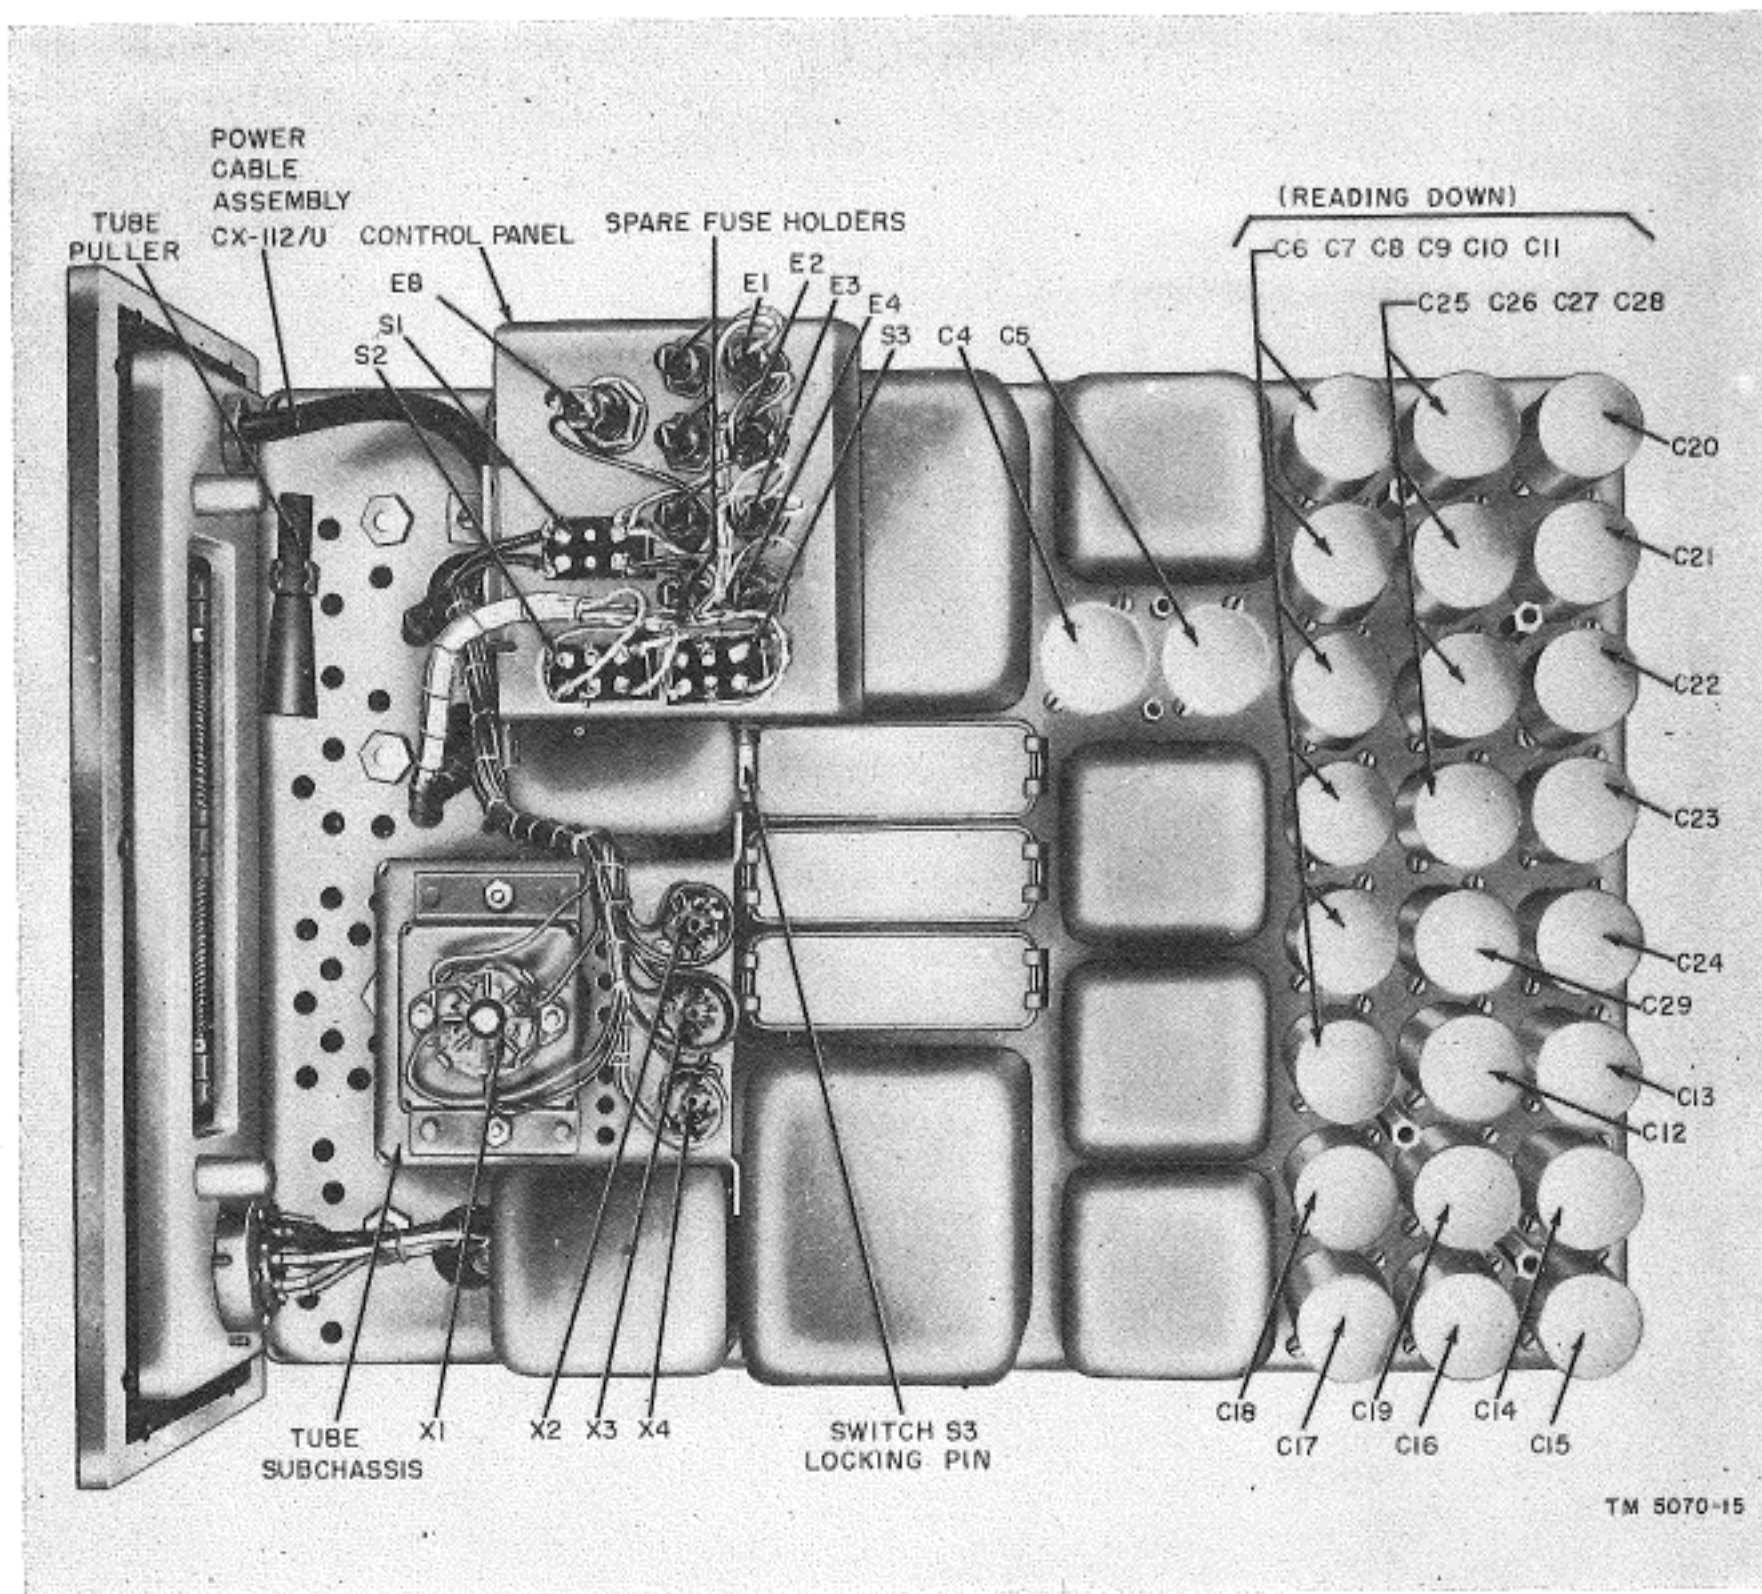
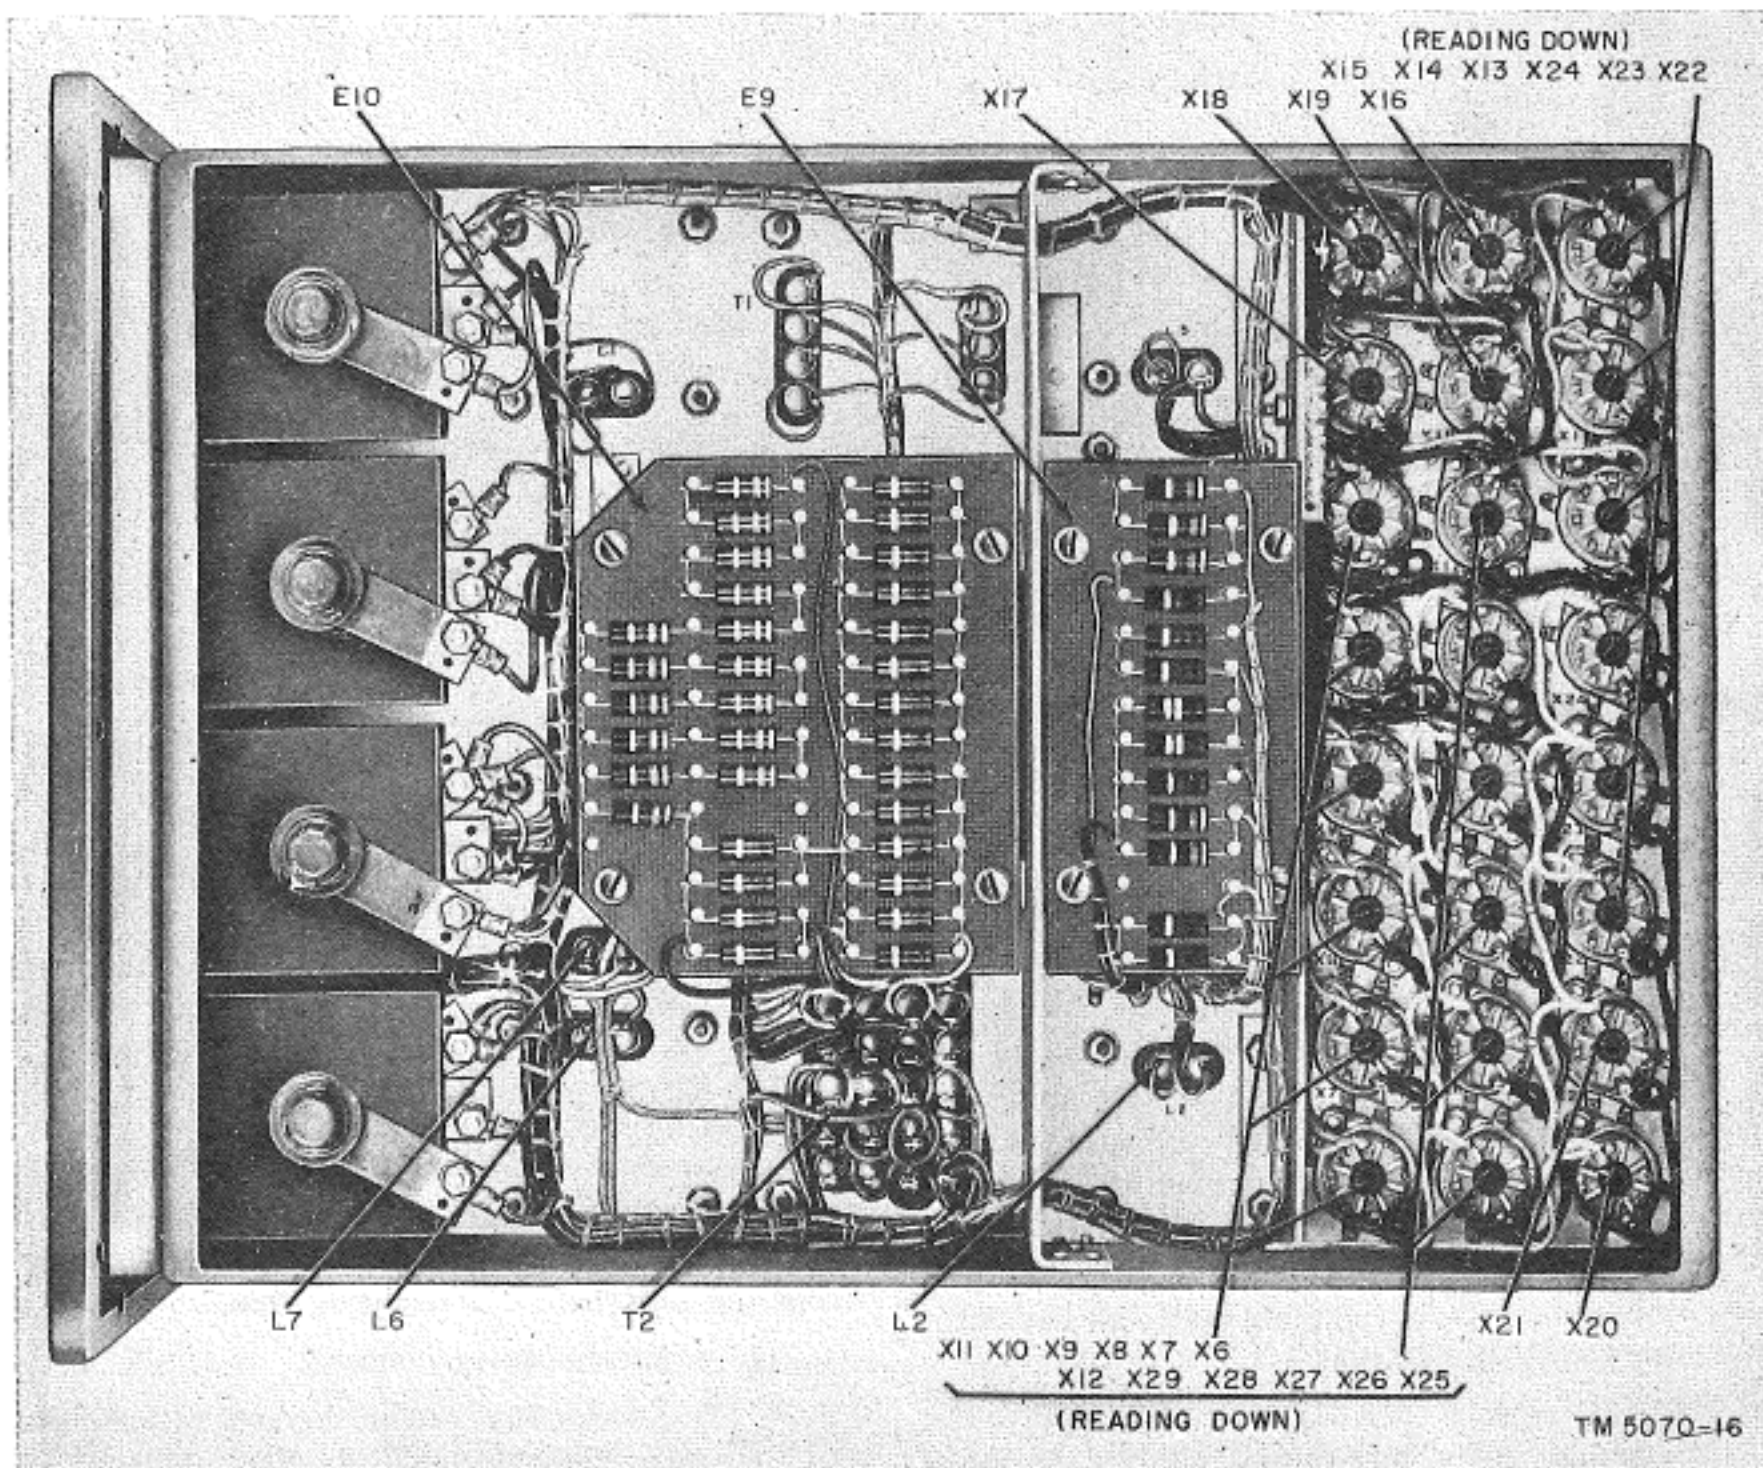

Figure 26. Power Supply PP-327/GRC-9Y, top view, control panel and tube subchassis removed.
Figure 27. Power Supply PP-327/GRC-9Y, bottom view.
- (2) Remove the three screws that secure the control panel to the main chassis.
- (3) Remove the control panel and place it in a position so that the part to be replaced (fig. 26) can be reached.
- (4) Remove the defective part. Tag the disconnected wires.
- (5) To replace the control panel after the defective part has been replaced, reverse the procedure in (1) through (3) above.
- (1) Remove the screw that holds the control panel and the tube subchassis together.
- (2) Remove the four screws that secure the tube subchassis to the main chassis.
- (3) Remove the tube subchassis and place it in a position so that the socket to be replaced (fig. 26) can be reached.
- (4) Remove the defective socket. Tag the disconnected wires.
- (5) To replace the tube subchassis after the socket has been replaced, reverse the procedures outlined in (1) through (3) above.
*d. Resistor Boards.* Resistor boards E9 and E10, which are located in the bottom of the unit, cover or partially cover some of the parts of the power supply (fig. 27). Resistor board E9 covers reactors L3 and L4 and capacitor sockets X5 and X30. Resistor board E10 covers capacitors C1, C2, and C3 and relays K1 and
a. *Receiver Filament Supply.* Measure the output voltage of the receiver filament supply (pin 22 of connector J1 to ground). If the voltage under load is below 1.6 volts, clip the leads to resistor R27 on terminal board E9 (figs. 27 and 36) and remove the resistor. If the voltage is still low, remove resistor R28. If removal of both resistors does not result in sufficient output voltage, replace rectifier CR1.
b. *Control Voltage Supply.* Measure the output voltage of the control voltage supply (pin 34 of connector J1 to ground). If the voltage under load is below 6.7 volts, clip the leads to resistor R29 on terminal board E10 (figs. 27 and 36) and remove the resistor. If the voltage is still low, remove resistor
c. *Transmitter Filament Supply.* Measure the output voltage of the transmitter filament supply (pin 20 of connector J1 to ground). If the voltage under load is below 6.5 volts, clip the leads to resistor R45 on terminal board E10 (fig. 27 and 36) and remove the resistor. If the voltage is still low, remove resistor R46. If removal of both resistors does not result in sufficient output voltage, replace rectifiers CR3 and CR4.